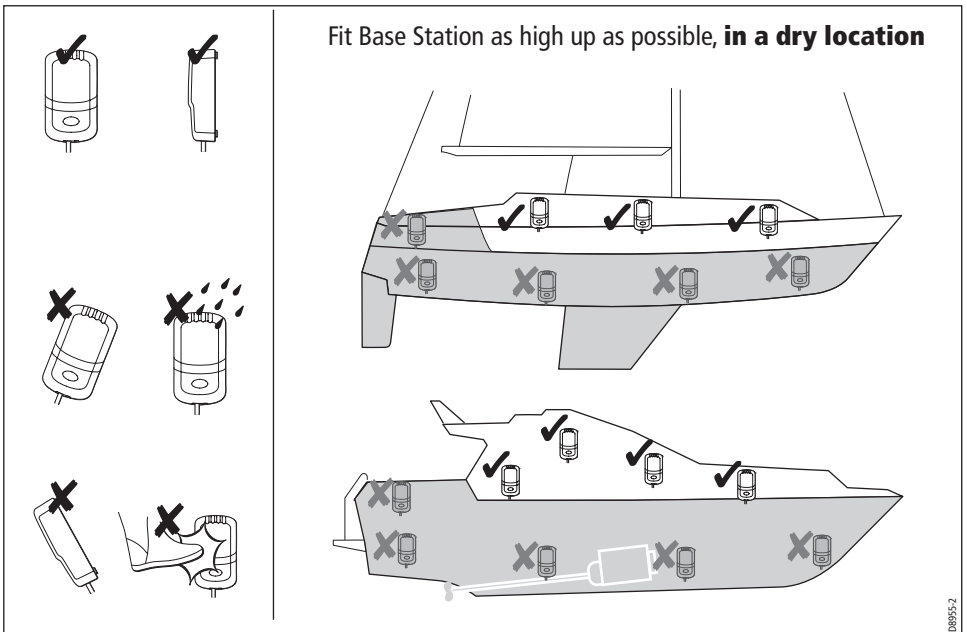
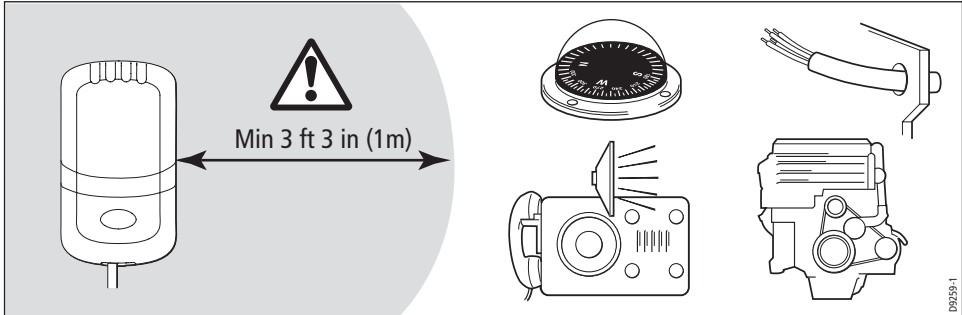
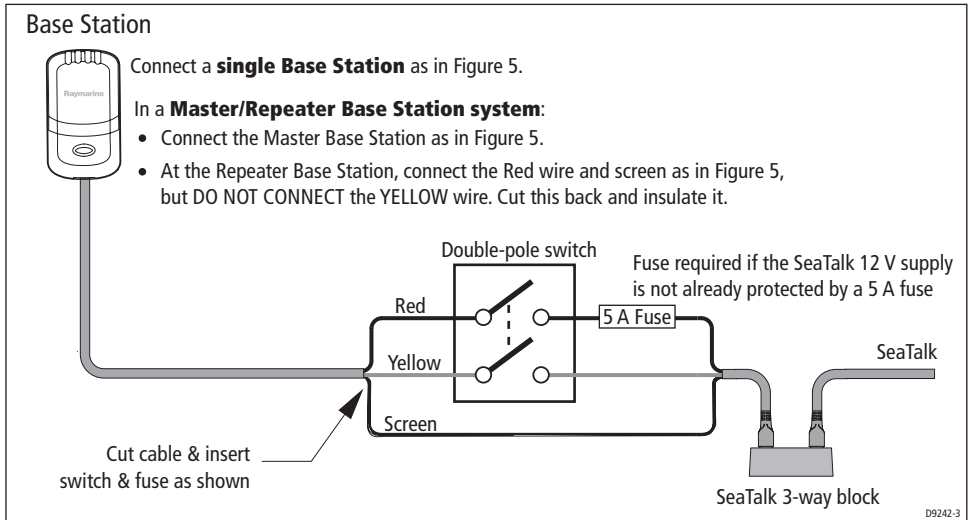
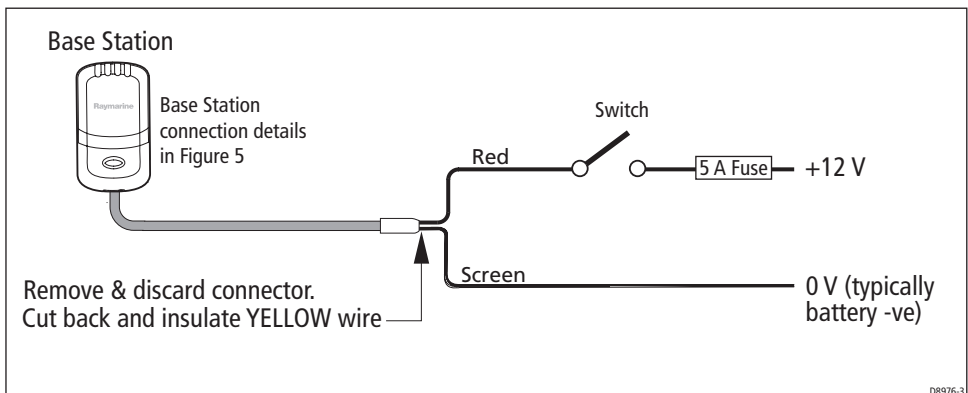

Figure 3 - Locating Base Station
Figure 4 - Base Station separations
Figure 6 - Base Station connection to SeaTalk
Figure 7 - Base Station power connections when SeaTalk is not available
The SeaTalk cable provides power in and data connections for the Base Station. If SeaTalk is available use this to connect the Base Station to SeaTalk, as in *Figure 6*. If SeaTalk is not available, use the SeaTalk cable to connect the Base Station to a 12 V dc power source, as in *Figure 7*.
The nominal LifeTag Base Station-to-Tag range is 30 feet (9 meters), so on boats where this separation is unlikely to be exceeded, the LifeTag system should operate satisfactorily with just one Base Station, provided it is positioned for optimum performance, as detailed in *Figure 3*.
1. Referring to *Figure 3* and *Figure 4*, place the Base Station at the location you intend installing it and temporarily connect it either to SeaTalk as described in *Figure 6* or to a separate 12 V dc supply via a 5 A fuse, as described in *Figure 7*.
3. Temporarily connect both Base Stations, via a common switch, to a 12 V supply (as in *Figure 6* or *Figure 7*).